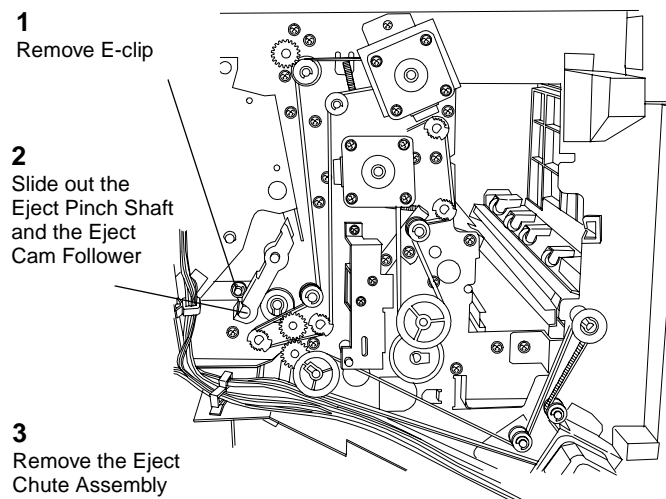

Figure 3 Removing the Eject Chute Assembly
7. Remove the Eject Chute Assembly (Figure 3).